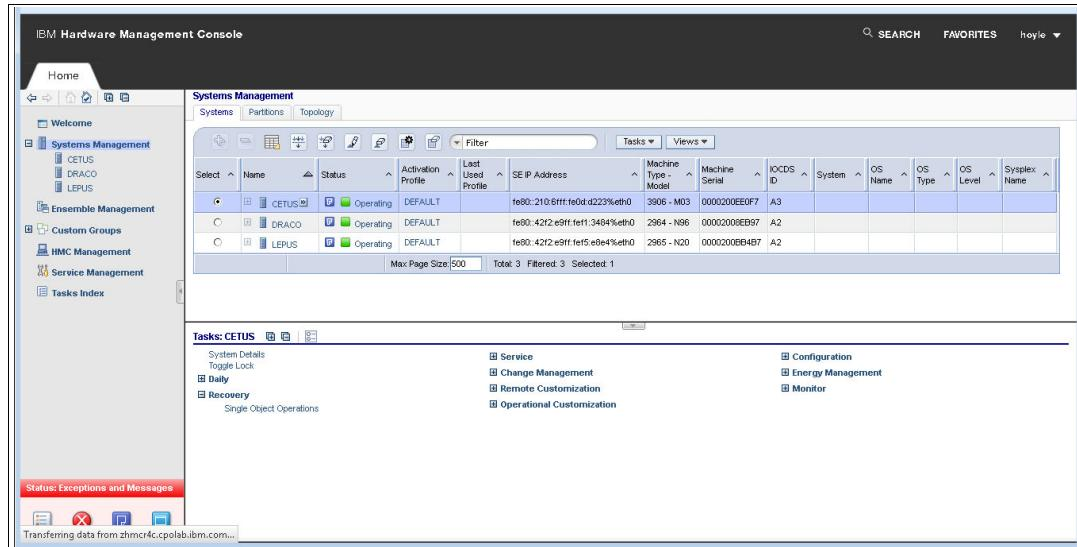

Figure 5-32 Systems Management: Main display
- On the Tasks window, click **Recovery** to expand it, and select **Single Object Operations** (Figure 5-32).